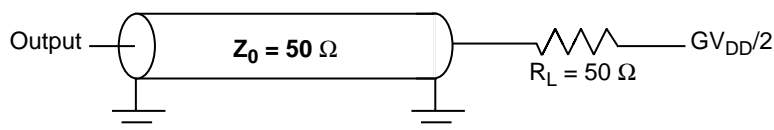
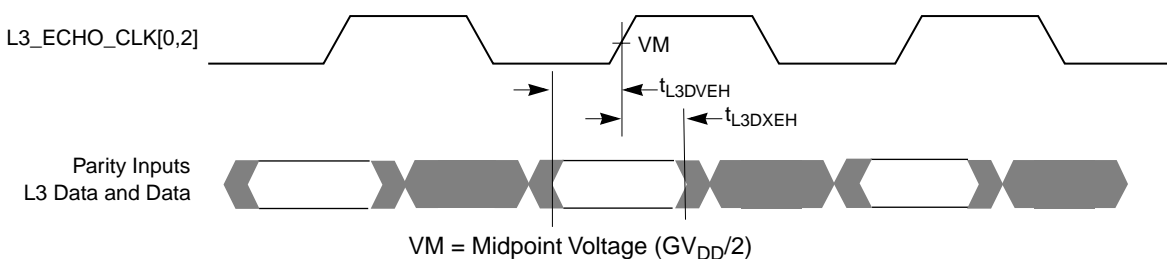

Figure 8. AC Test Load for the L3 Interface
Figure 12. L3 Bus Timing Diagrams for Late Write or PB2 SRAMs
- For high speed operations, L3 interface address and control signals should be a “T” with minimal stubs to the two loads; data and clock signals should be point-to-point to their single load. Figure 8 shows the AC test load for the L3 interface.
Table 13 provides the L3 bus interface AC timing specifications for the configuration as shown in Figure 9, assuming the timing relationships shown in Figure 10 and the loading shown in Figure 8.
5. All output specifications are measured from the midpoint voltage of the rising (or for DDR write data, also the falling) edge of L3_CLK to the midpoint of the signal in question. The output timings are measured at the pins. All output timings assume a purely resistive 50- Ω load (see Figure 8).
Table 14 provides the L3 bus interface AC timing specifications for the configuration shown in Figure 11, assuming the timing relationships of Figure 12 and the loading of Figure 8.
Figure 12 shows the L3 bus timing diagrams for the MPC7455 interfaced to PB2 or Late Write SRAMs.